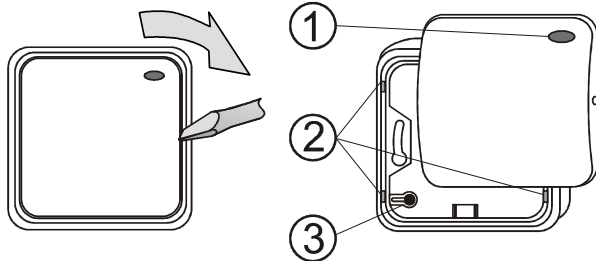

Figure 1 – 1 – LED indicator visor, 2 – Base plastic tabs, 3 – Permanent magnet
1. Open the movable cover (by a screwdriver from the side, see figure 1).
2. Release the bottom plastic base by pressing the 4 tabs in the corners (2).
4. Assemble the PCB part into its plastic frame. If the plastic base is used then it is necessary to move the permanent magnet (3) of the tamper contact from the plastic frame which holds the PCB to the receptacle on the plastic base.
5. Connect the BUS cable to the BUS terminals (7).